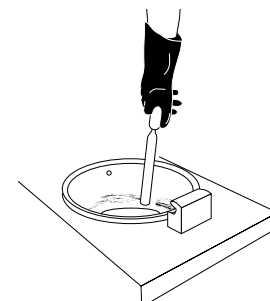

FIGURE 20
10. **Cleaning After Each Round** - scrape crust line from pot with spatula (not included with fryer)(Figure 20). Brush heater coils on the front and back side with the white teflon brush (supplied). Wipe excess moisture off of fryer lid with a dry towel.
2. **Scrape Crust Line** from cookpot with spatula, and brush heater coils (Figure 20).